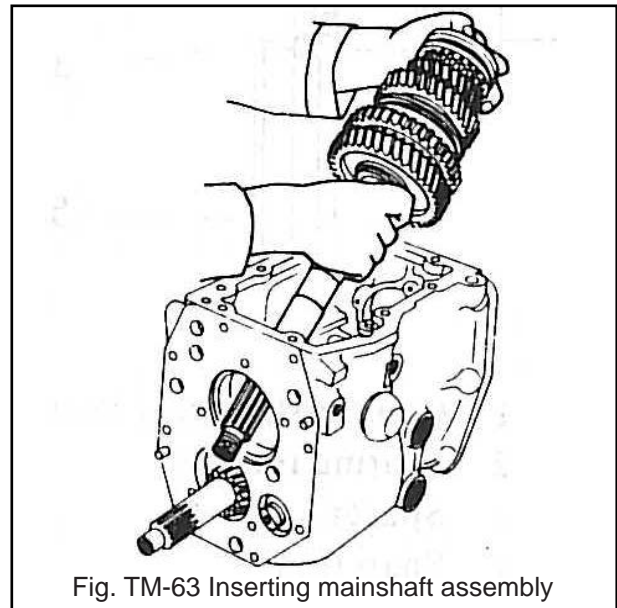

Fig. TM-63 Inserting mainshaft assembly
6. Insert mainshaft assembly into the transmission case through the opening in transmission case. See Figure TM-63.